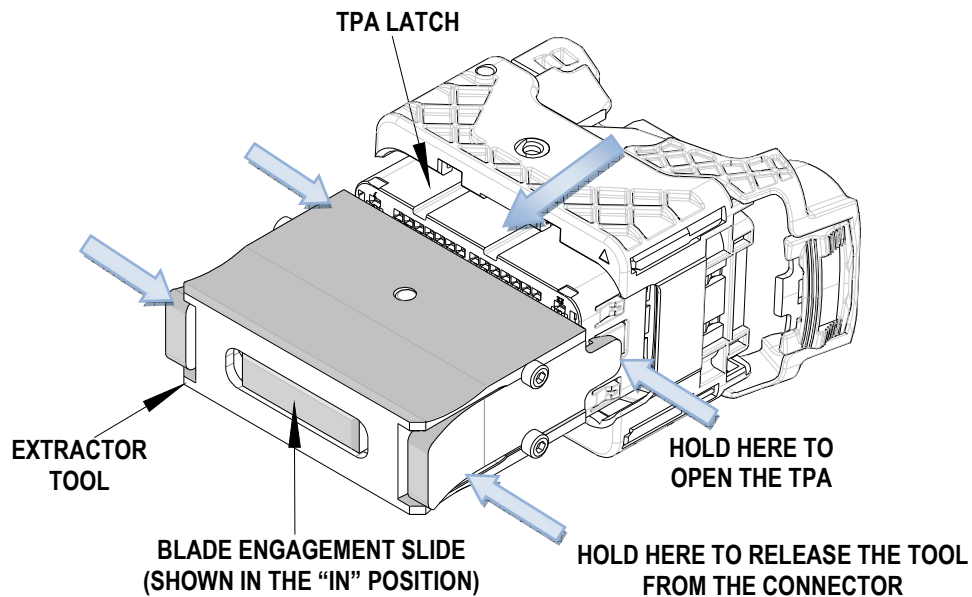

Figure 2
3. The tool is now secure on the in the TPA. See Figure 2.
1. Insert the extractor tool into the (2) side slots of the (TPA) secondary lock on each sides.
2. Pull out with the tool. See Figure 2.